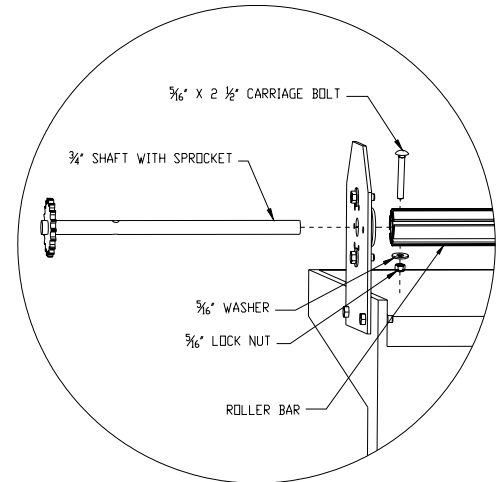

Fig. 7B
3. Drill a 5/16" hole, 1/2" from the end of the rollerbar you just cut. Start the hole in one of the smooth-sided slots, **not** a threaded slot (see fig 7A). Slide one end of the rollerbar over the 3/4" shaft with sprocket and secure with a 5/16" carriage bolt, washer, and nut. (See fig. 7B)